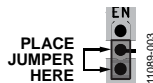

Figure 4. Disabled Jumper Position
- Use a jumper to connect the bottom two pins of the EN test bus. This connects EN to GND and disables the converter (see Figure 4).